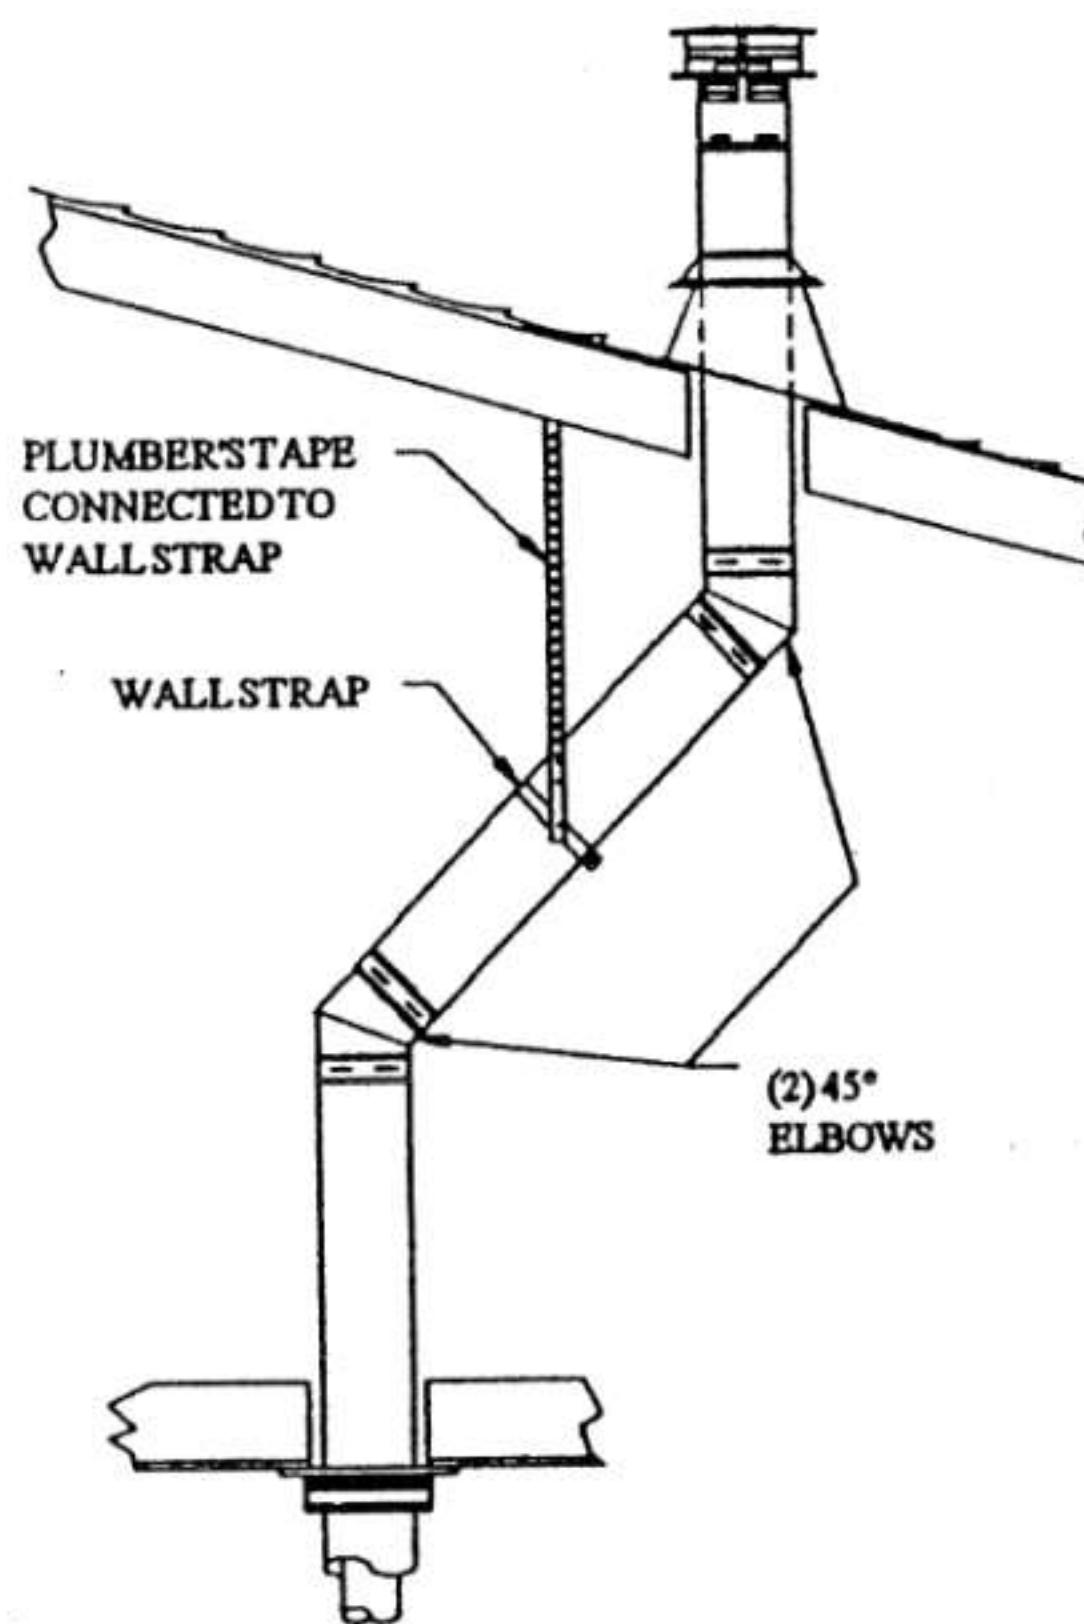

Fig. 7
2) Set the gas appliance in its desired location. Drop a plumb bob down from the ceiling to the position of the appliance flue exit, and mark the location where the vent will penetrate the ceiling. Drill a small hole at this point. Next, drop a plumb bob from the roof to the hole previously drilled in the ceiling, and mark the spot where the vent will penetrate the roof. Determine if ceiling joists, roof rafters or other framing will obstruct the venting system. You may wish to relocate the appliance or to offset, as shown in Fig. 7 to avoid cutting load bearing members.
NOTE: If an offset is necessary in the attic to avoid obstructions, it is important to support the vent pipe every 3 feet, to avoid excessive stress on the elbows, and possible separation. Wall Straps are available for this purpose. Fig. 7.